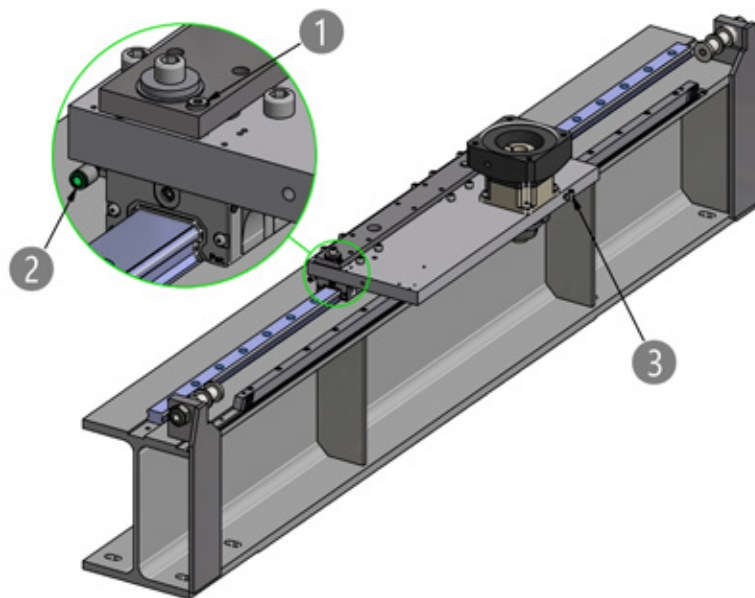

Figure 3.16 — Position of the cylinder bolt and the lubrication connections of Beam Axis for parallel use
During assembly, the Linear Axis must be aligned in parallel and finally fastened. To activate the compensation system, the cylinder bolt ❶ (Figure 3.16) must then be removed.
The carriages ❷ and the rack and pinion drive ❸ of the Linear Axis AXS120M\_ and AXS300MP are equipped with lubrication connections for central lubrication systems. The position of the lubrication connections are shown in Figure 3.16.